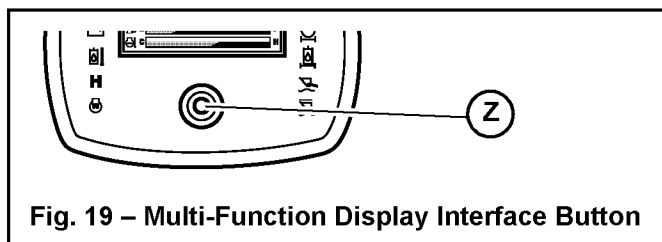
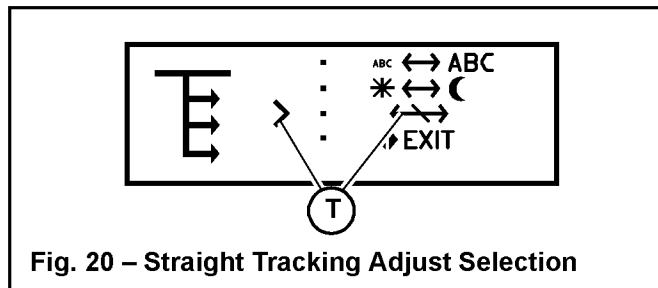
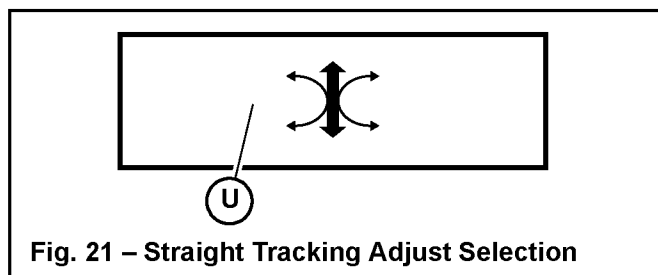
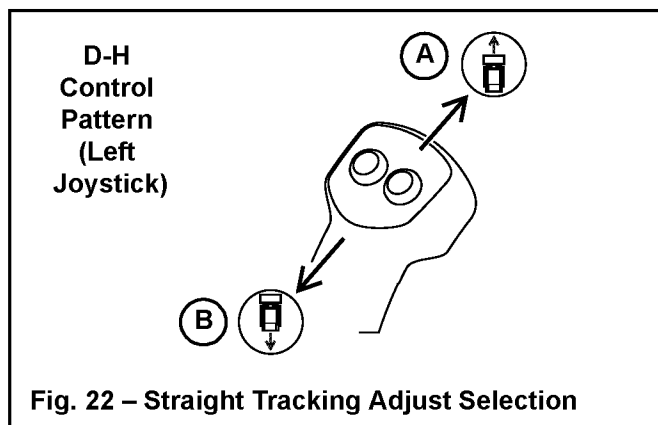

Fig. 19 – Multi-Function Display Interface Button
Fig. 20 – Straight Tracking Adjust Selection
Fig. 21 – Straight Tracking Adjust Selection
Fig. 22 – Straight Tracking Adjust Selection
4. Press and hold the interface button (Z, Fig. 19) on the display until the configuration selection screen (Fig 20) displays.
5. Press and release the interface button until the selection caret points to the straight tracking adjust \leftrightarrow selection (T, Fig 20).
6. Press and hold the interface button until the straight tracking adjust screen (U, Fig 21) displays.
- **Forward direction** – While holding left joystick (A, Fig. 22) fully forward, move the joystick either slightly left or right as required until the machine is tracking straight. With the joystick held in this position, press and hold interface button (Z, Fig.19) for 2 seconds until the straight tracking screen (U, Fig.21) is dismissed.
- **Reverse direction** – While holding the left joystick (B, Fig. 22) fully back, move the joystick either slightly left or right as required until the machine is tracking straight. With the joystick held in this position, press and hold the interface button (Z, Fig. 19) for 2 seconds until the straight tracking screen (U, Fig.21) is dismissed.